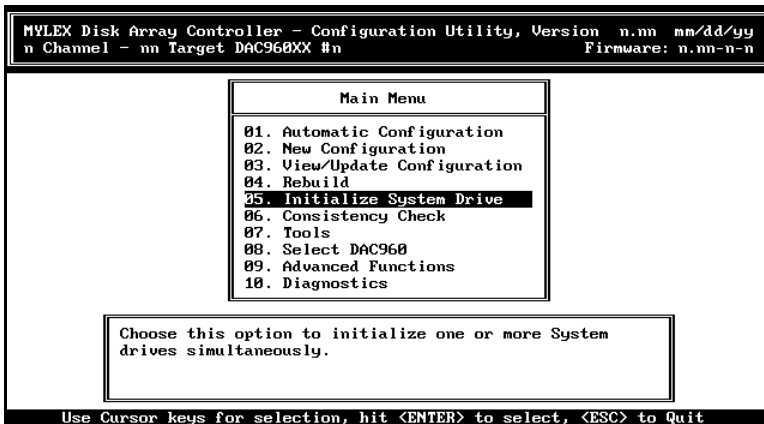

Figure 2-24. Initialize System Drive Option
1. Select **Initialize System Drive** from the Main menu (Figure 2-24).